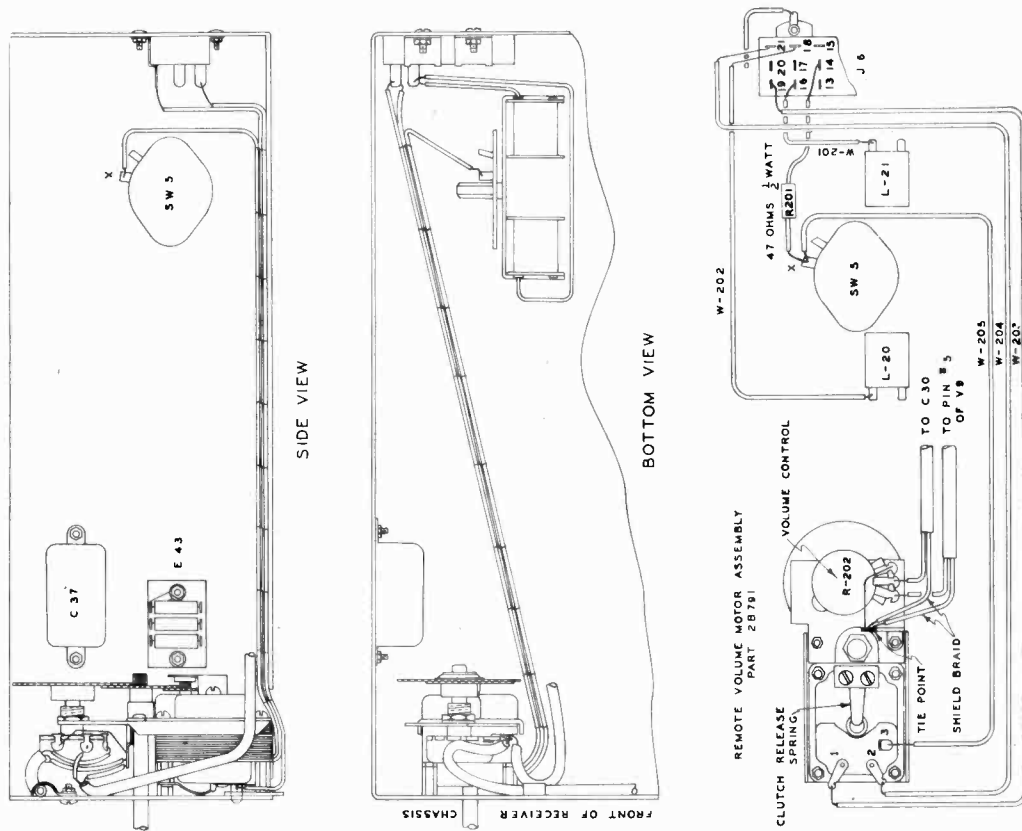

FIG. 5 PICTORIAL DIAGRAM OF CHANGES NECESSARY
The schematic diagram shown in Figure 4 and the pictorial diagram shown in Figure 5 depict the changes in wiring necessary when the remote volume control motor is added to the standard 800-B Radio Receiver chassis.
By utilizing the following instructions and the pictorial diagram of Figure 5 the remote volume control may be easily installed in a standard Model 800-B Receiver chassis. It is necessary to remove the panel and knob escutcheon plate before proceeding with the installation.
5. Insert the tuning motor assembly in place and fasten down with two 5-40 x 1/4 RH screws and two 6-32 x 1/4 BH screws as shown in Figure 5. The two 5-40 x 1/4 RH screws are used to mount the motor assembly spacers to the chassis while the two 6-32 x 1/4 BH screws are used to mount the motor assembly bracket to the chassis. Make certain that the manual drive shaft rotates freely in the bearing plate. If not, loosen the bearing plate mounting screws and center it properly over the shaft, then tighten down again.
6. Reconnect the volume control leads as shown in Figure 5 using the tie point mounted on the motor frame for connecting the shield braids of the two shielded leads. The off terminal of the volume control should then be connected to this tie point by a short piece of wire.
7. Connect wire W201 as shown in Figure 5 from contact No. 16 of the 21 contact receptacle J6 to one terminal of the AC relay coil L21.
9. Connect wire W203 from contact No. 19 of receptacle J6 to terminal No. 1 of the volume control motor as shown in Figure 5.
11. Connect wire W205 from terminal X of AC relay switch SW5 to terminal No. 3 of volume control motor as shown in Figure 5.
12. Connect resistor R201 between contact No. 14 of receptacle J6 and contact Y of AC relay switch SW5 as shown in Figure 5.